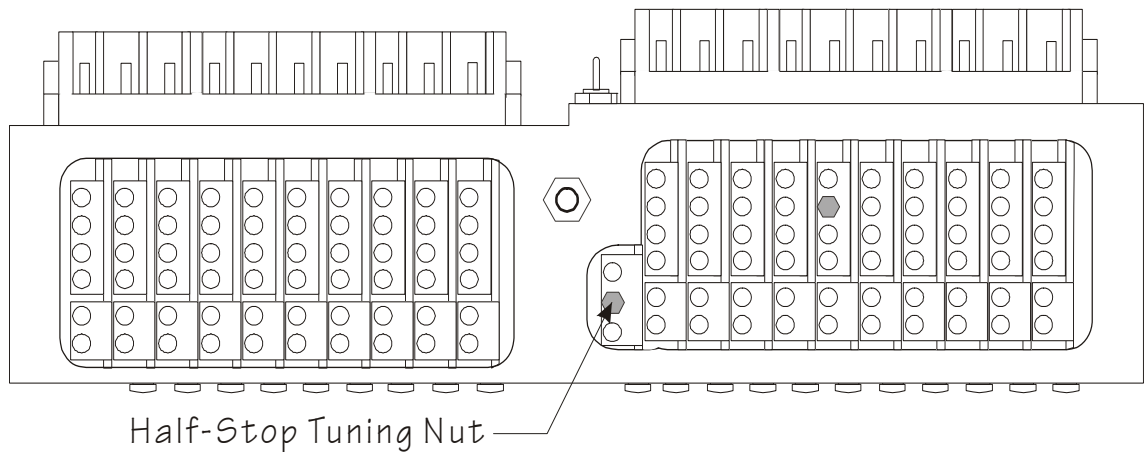

Figure 2
3. Tune the half-tone lower "feel" by adjusting the nylon hex nut for the half-stop. This nut should be adjusted to contact the half-stop changer finger when the 2nd string reaches its half-tone change (E^b to D). (See Figure 2, Below.)